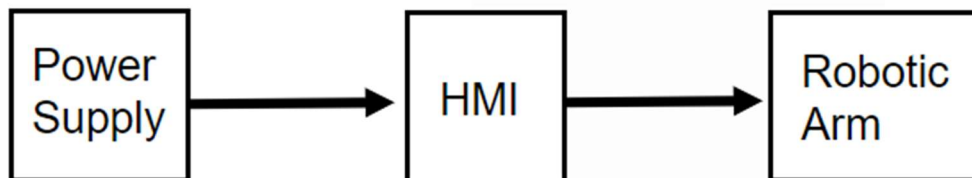

Figure 1 – Block diagram
The client has contacted your supervisor to report an offline motor fault on a Selective Compliance Assembly Robot Arm (SCARA), as shown in Figures 1, 2 and 3, which is being indicated on the human machine interface (HMI). The system is also due for planned maintenance.
- a programmable HMI (Fig 1) displays the current state of operation